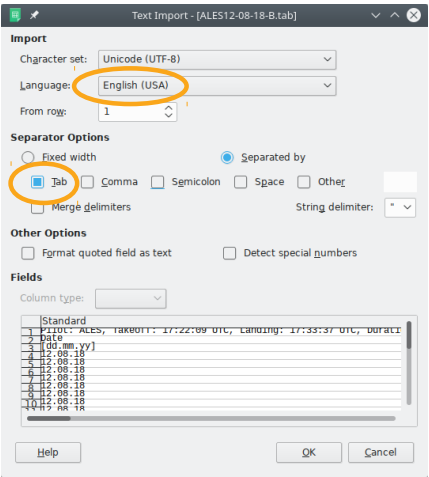

Figure 24: An example of Calc Text Import window.
5. Calc detects that a text file is being imported and it opens a window as shown on Figure 24. Please make sure that the *Tab* option is selected as the separator and *English (USA)* as the language. This makes sure that decimal values are properly imported.